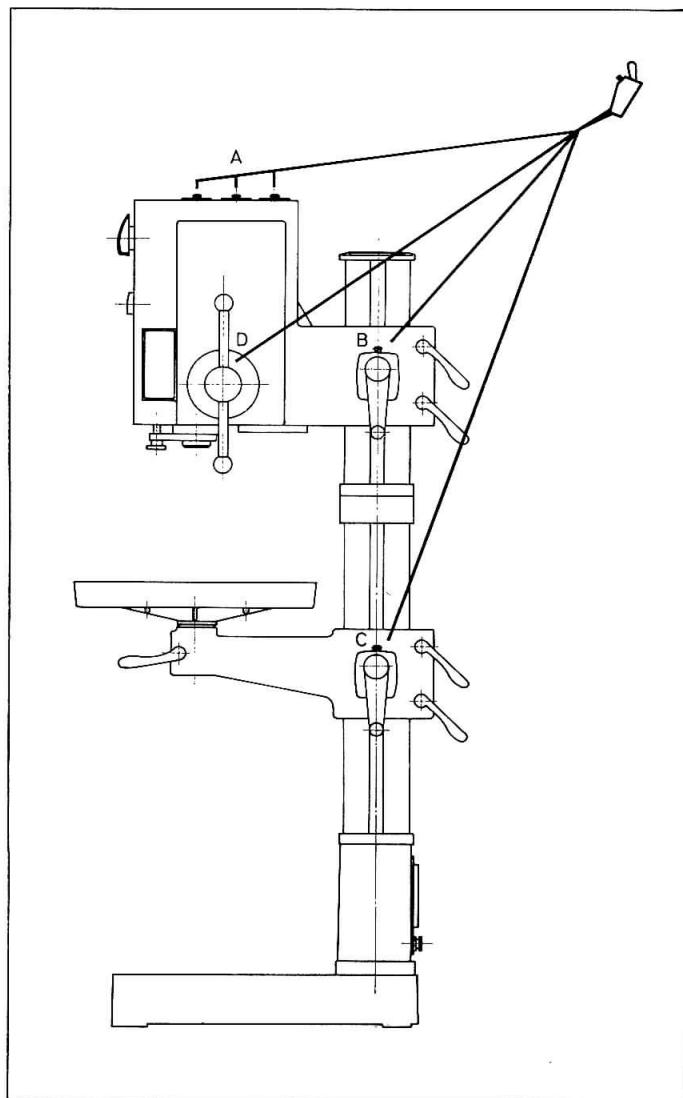

FIG. 2
Before operating, the machine must be lubricated on the oil points only. The Fig. 2 shows the machine which has more points of lubrication. Consider the lubricating points existing on your machine and proceed as follows:
**B — HEAD ASSEMBLY (FIG. 2)**